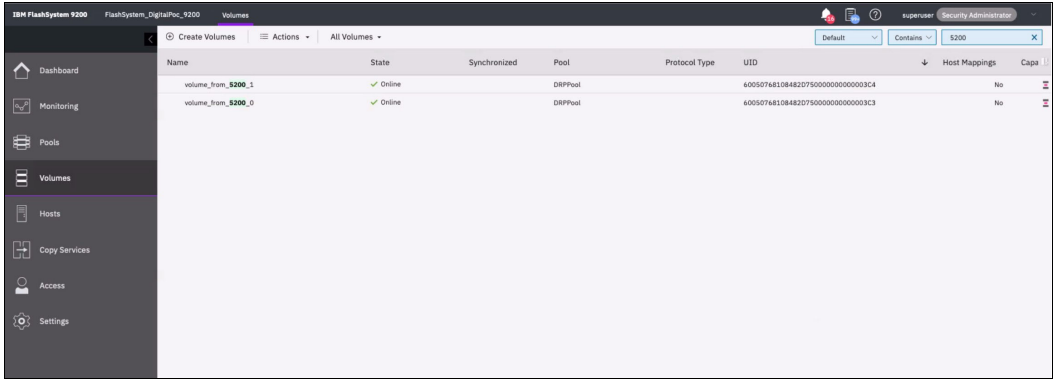

Figure 8-24 Creating two volumes on target system
1. Ensure to create new volumes of matching sizes on the target system, but with a different UUID 60050768108482D7500000000000003C4 and 60050768108482D7500000000000003C3 than the source system, as shown in Figure 8-24.